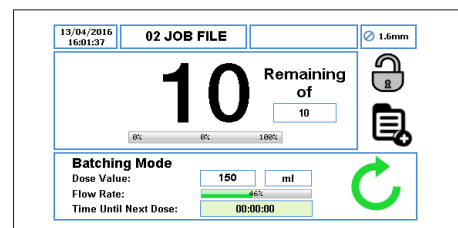

Figure 11 Home Screen - Reset Number of batches
- ▶ When the pump is running in batch mode, pressing twice the STOP button, the number of batches will be reset as per *Figure 11*.